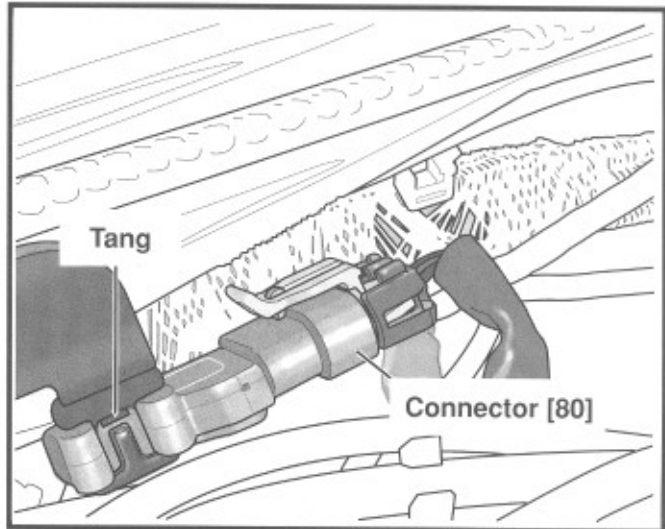

Figure 7-28. MAP Sensor
4. See Figure 7-28. Using appropriate tool gently release tang holding sensor - Push sensor down.